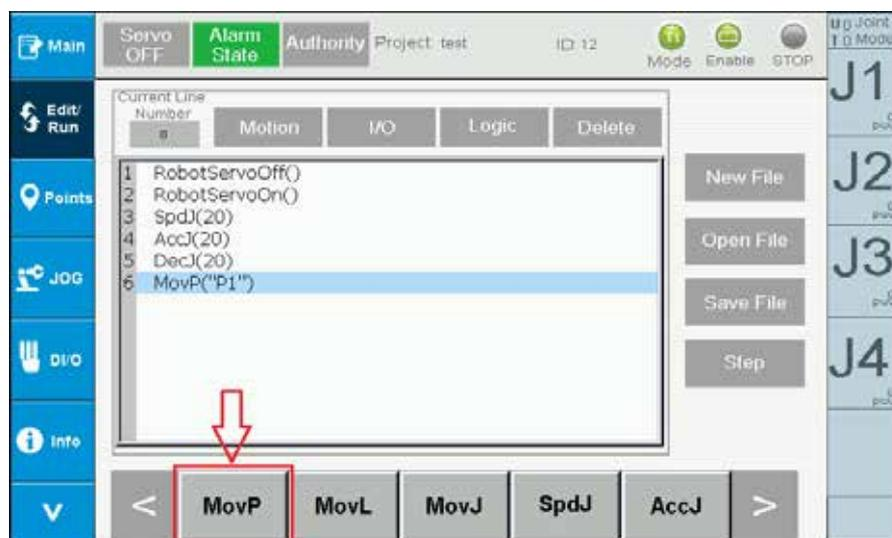

Figure 2-11 Edit/run program for robot - Select command
3. Select the RL command (MovP, MovL, etc.) at the bottom, shown as Figure 2-11. Press **<** or **>** to switch to commands on the next page.